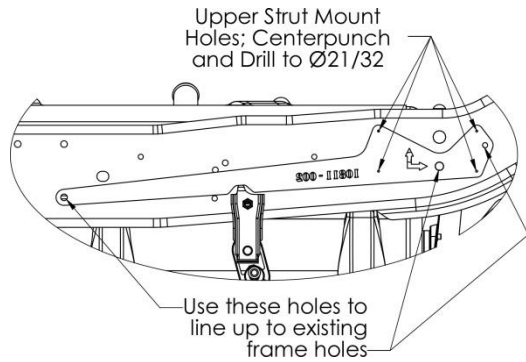

Figure 10. Frame Drilling Template Passenger Side Location
15. Place the template along the passenger side as shown in Figure 10.
16. Center punch, mark, or drill with 1/8" bit the holes indicated in Figure 10.